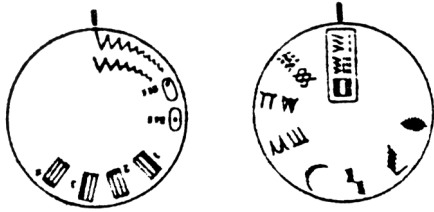

Fig. 9
- Set control knob to the widest zigzag stitch (fig. 9).